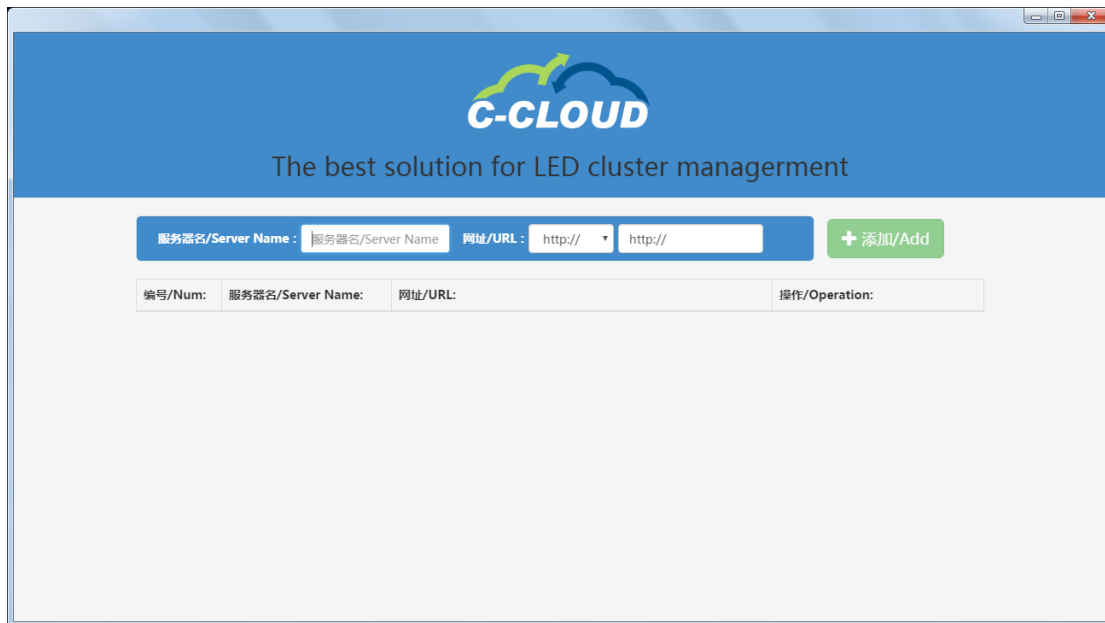

Figure 3.2-1
1. Click the desktop or Chrome extension to start C-CLOUD, as shown in Figure 3.2-1.